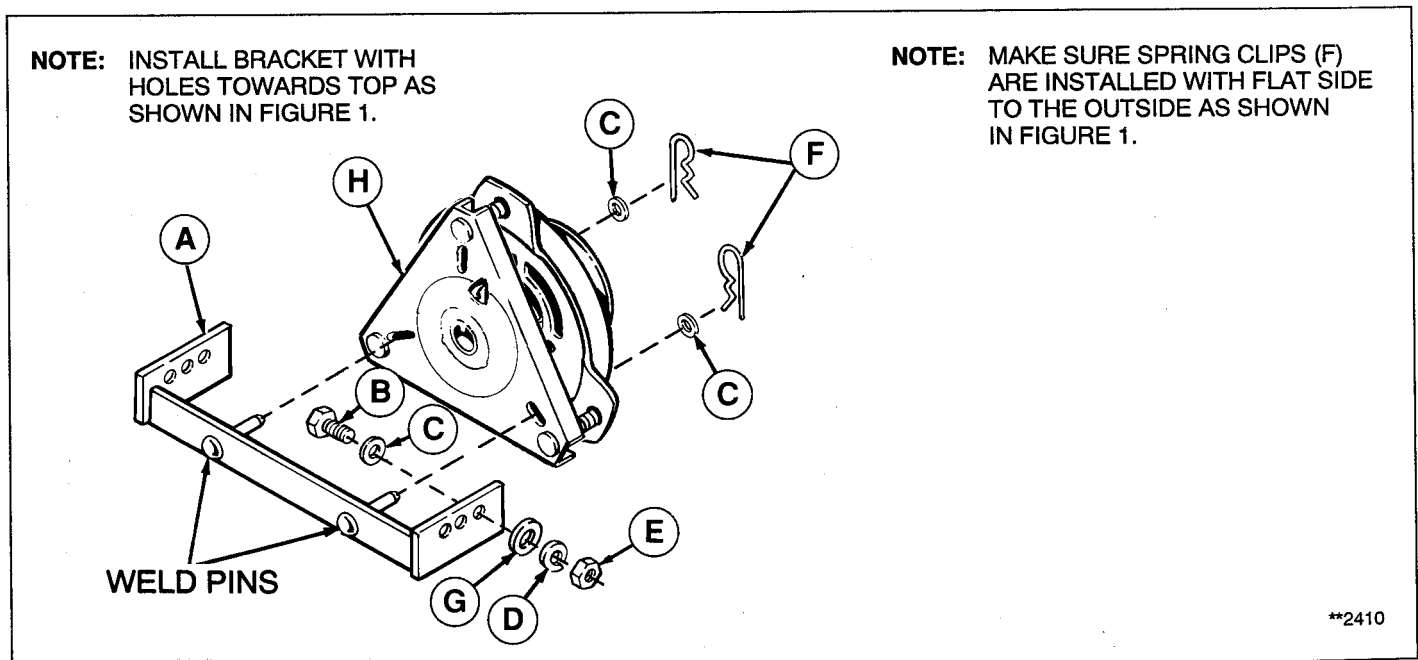

Figure 1. Clutch Mounting Assembly
A product improvement has been made to the PTO anchor that secures the electric clutch to tractor frame. A steel anchor bracket (A, figure 1) will be used rather than the rubber retaining strap shown in Instructions 1678774 in Figure 9). Use the following instructions in addition to the Installation Instructions, Form 1678774-02.
New Parts - refer to figure 1
3. Place anchor bracket (A, figure 1 or figure 3) in position with holes towards the top as shown in figure 1. Install capscrew (B) and flat washer (C) from inside frame. Secure with flat washer (G), lockwasher (D), and nut (E). Leave hardware loose. Installed clutch is illustrated in figure 3.
5. With clutch completely installed, position the backside of anchor bracket (A, figure 3 and figure 1) so that there is 3/64-1/16" (.050-.060") from high point of clutch field assembly (B) as shown in figure 3. This should locate the bracket weld pins approximately centered in the clutch slots. Snug mounting hardware. Bracket should be square with frame and level from left to right.
7. Install the one flat washer on each weld pin and secure with spring clips. Note that the flat side of the spring clips must be toward the outside as shown in figure 1.